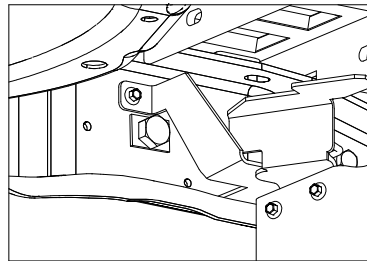
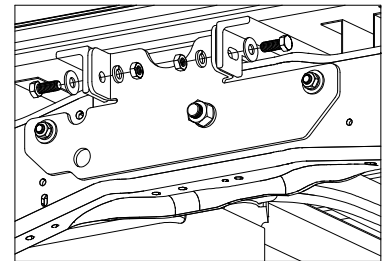
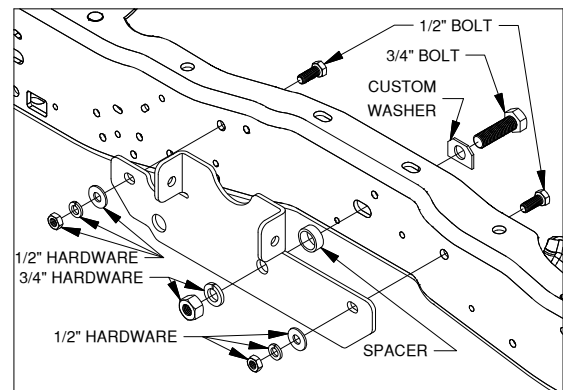

Figure C6: View looking at inside of driver side frame.
Figure C7: View outside of driver side frame.
Figure C8: Exploded diagram of driver side plate.
3. **Install side plates.** Install the side plates on the outside of the frame by passing a 3/4" hex bolt and washer from the inside of the frame to the outside. (The driver side washer is non-standard, see Figure C6). Place a spacer ring over the 3/4" bolt on the outside of the frame. Next, carefully place a side plate over the 3/4" bolt and secure in place with a lock washer and nut. Next, install 1/2" bolts in the front and rear of the side plate starting with a 1/2" bolt on the inside of the frame and a flat washer, lock washer, and nut on the outside of the frame, see Figure C7 and C8. Repeat side plate installation for both sides of the truck frame. Attach the side plates to the front and rear cross members with 1/2" hardware as shown in Figure C8.